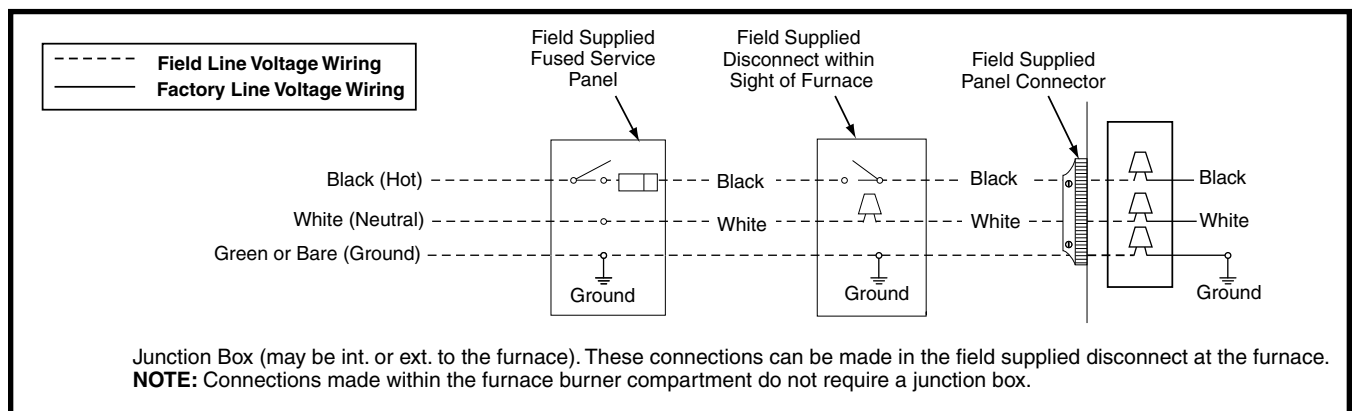

Figure 21. Line Voltage Field Wiring
- An electrical disconnect must be installed readily accessible from and located within sight of the furnace. See Figure 21 or the wiring diagram label inside of the control door. Any other wiring methods must be acceptable to authority having jurisdiction.
- Proper line voltage polarity must be maintained in order for the control system to operate correctly. Verify the incoming neutral line is connected to the white wire and the incoming HOT line is connected to the black wire. The furnace will not operate unless the polarity and ground are properly connected as shown in Figure 21.